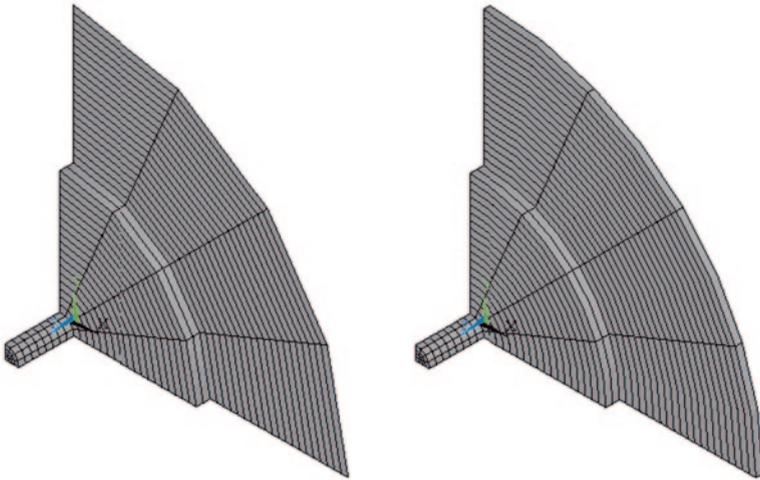

Fig. 8.35 Elements plotted without (*left*) and with (*right*) thickness information from real constants and curved surfaces
- *Plot Numbering Controls* dialog box appears. Select **Material numbers** from the first pull-down menu (corresponding to **Elem/Attrib numbering**) and select **Colors only** from the second pull-down menu (corresponding to **[/NUM] Numbering shown with**); click on **OK**. Figure 8.35 (left) shows the corresponding element plot with different colors based on material numbers.
- Figure 8.35 (right) shows the corresponding element plot with elements having curved edges/surfaces and thickness.